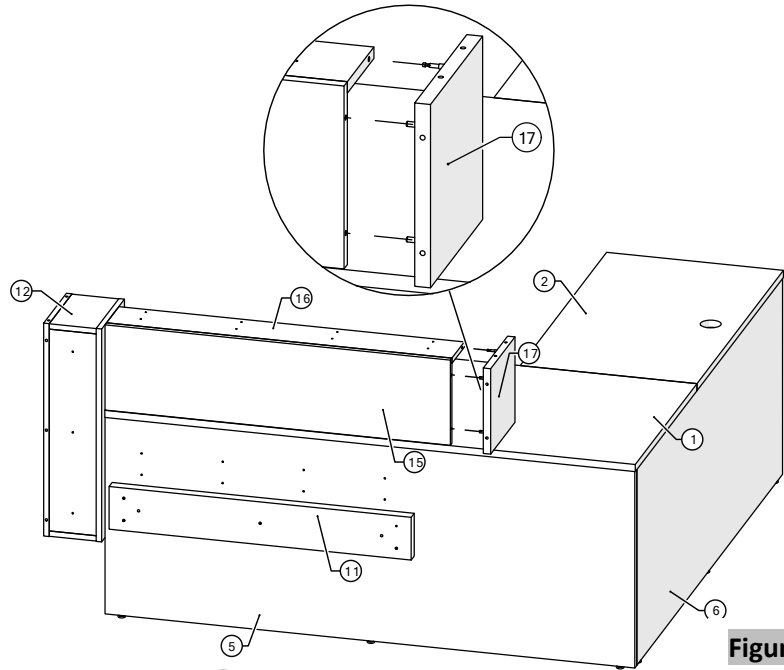

Figure 23
29. Connect the countertop gable to the waterfall false back and waterfall false support and press tightly together by inserting the quickfit dowel and wooden dowels into the holes (Figure 23).